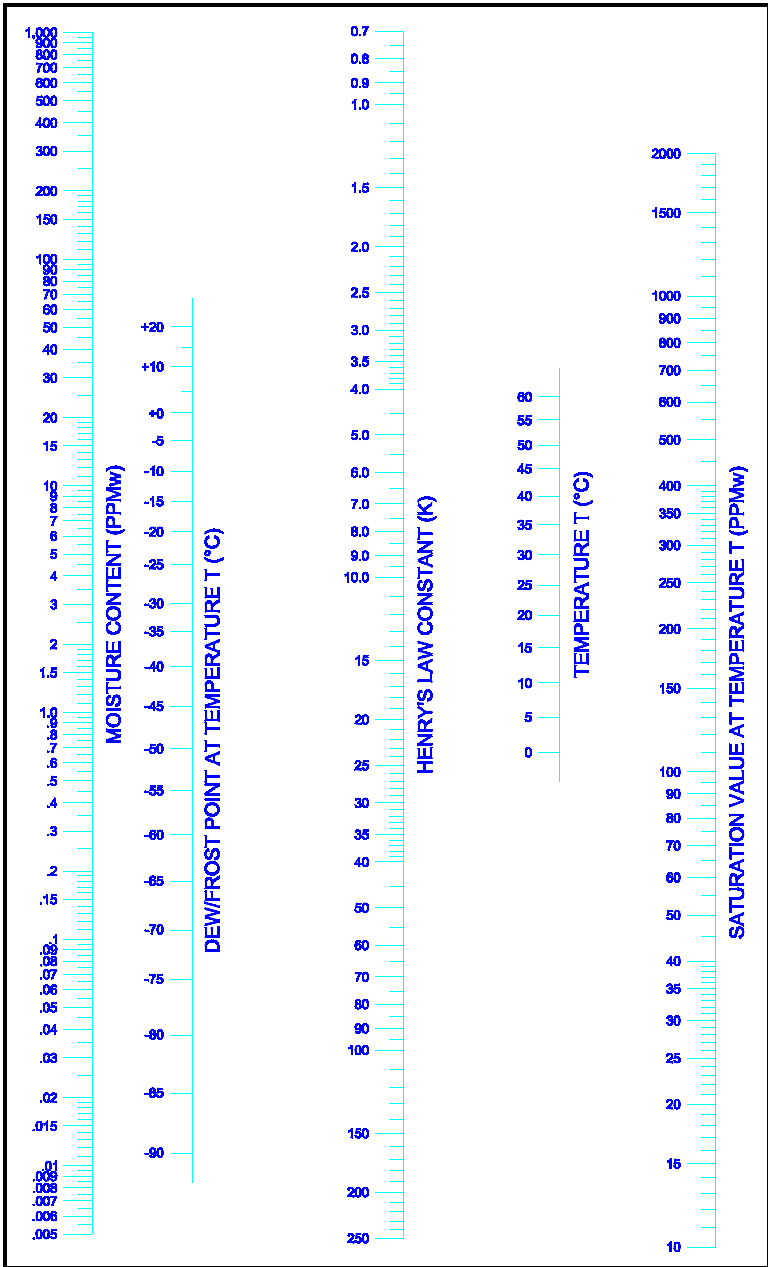

Figure A-2: Moisture Content Nomograph for Liquids
The nomograph for liquids in Figure A-2 on page A-38 can be used to determine the moisture content in an organic liquid, if the following values are known:
If the values of K and C_S are not known, the GE Infrastructure Sensing hygrometer can be used to determine these values. In fact, only one of the values is required to determine PPM_W from the nomograph in Figure A-2 on page A-38. To perform such an analysis, proceed as follows:
As mentioned earlier, saturated straight-chain hydrocarbons represent a special case, where the Henry's Law constant does not vary appreciably with temperature. In such cases, use the nomograph for liquids in Figure A-2 on page A-38 to complete the analysis.
- b. Using a straightedge on Figure A-2, connect the 870 PPM_W saturation concentration with the 30°C ambient temperature and read the Henry's Law Constant of **27.4** on the center scale.
- b. Using a straightedge on Figure A-2, connect the 480 PPM_W saturation concentration with the 50°C ambient temperature and read the Henry's Law Constant of **5.2** on the center scale.
- b. Using a straightedge on Figure A-2 on page A-38, connect the 101 PPM_W saturation concentration with the 20°C ambient temperature and read the Henry's Law Constant of **5.75** on the center scale.
- d. Using a straightedge on the nomograph in Figure A-2 on page A-38, connect the known 10 PPM_W moisture content with the measured dew point of -10°C , and read a K value of **5.1** on the center scale.